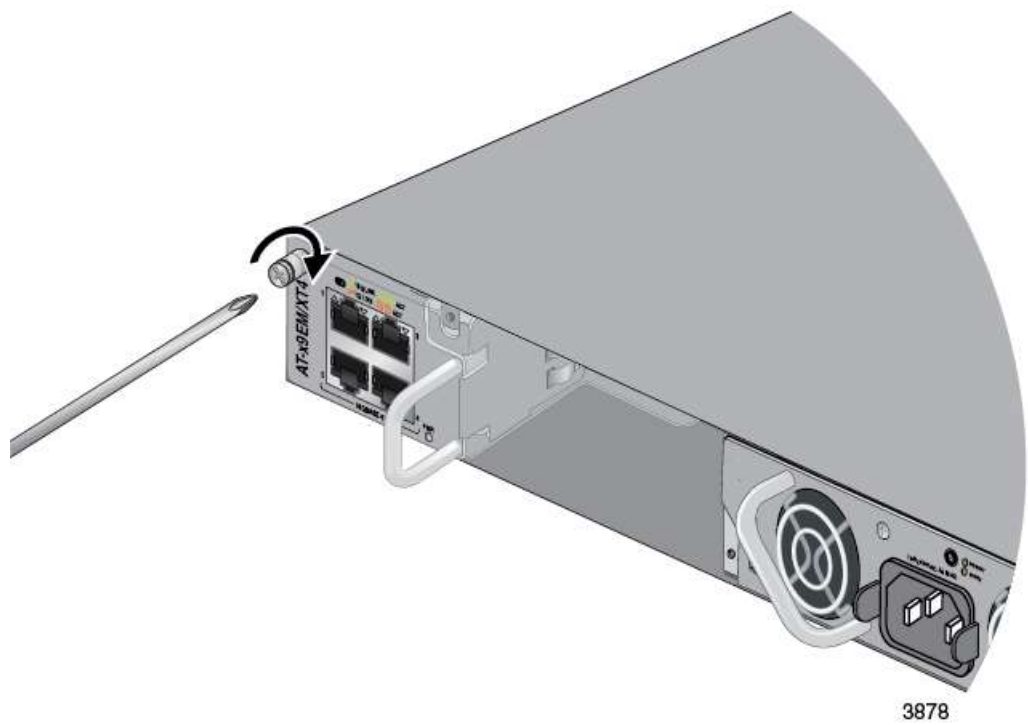

Figure 35. Tightening the Captive Screw on the AT-x9EM/XT4 Card
10. Tighten the captive screw to secure the AT-x9EM/XT4 Card in the switch. Refer to Figure 35.